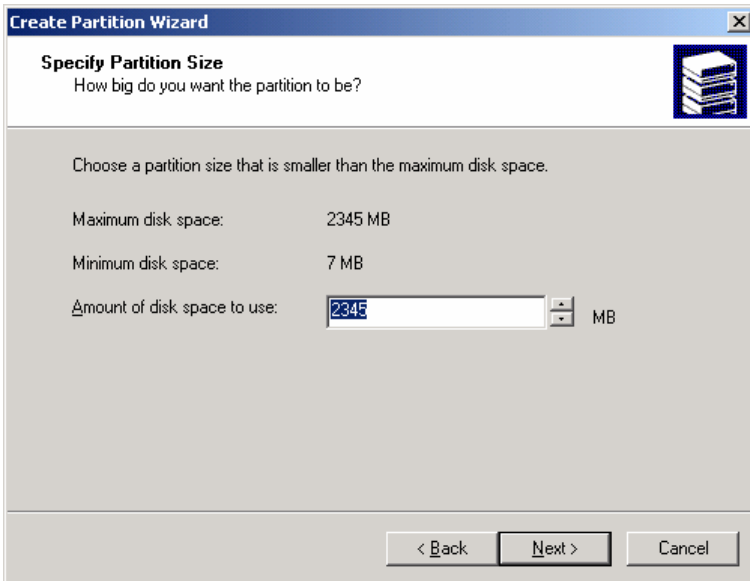

Figure 3.4 Specify Partition Size
2. The Specify Partition Size window displays (see Figure 3.4). Specify the desired partition size. If the size is greater than 1024 MB, the Disk Management requests confirmation to create the partition. Click **Next**.